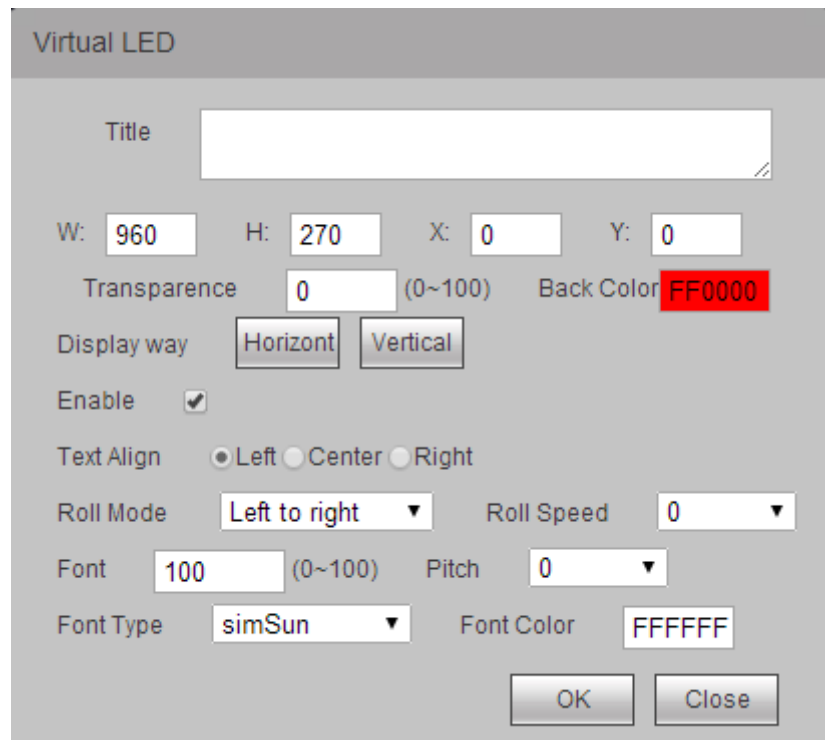

Figure 4-22
Step 2 Click . The system displays “Virtual LED” interface, as shown in Figure 4-22.